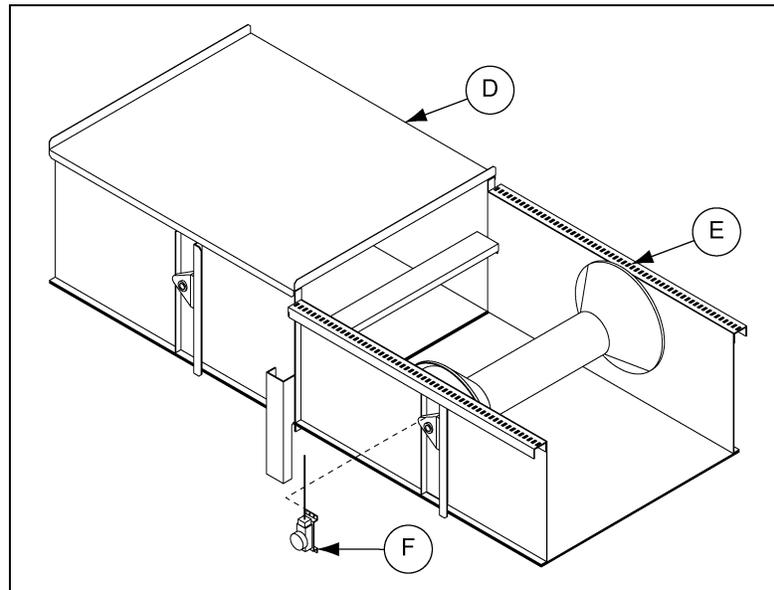

Figure 4AB *Limit Switch Location*
Two (2) limit switches will need to be installed at the beginning and end of the travelable plow sections (E). *Figure 4AB* demonstrates how the limit switch and supplied mounting bracket need to be field located and attached to the side of the conveyor. Typical mounting locations include either the side panel or the bearing bracket.